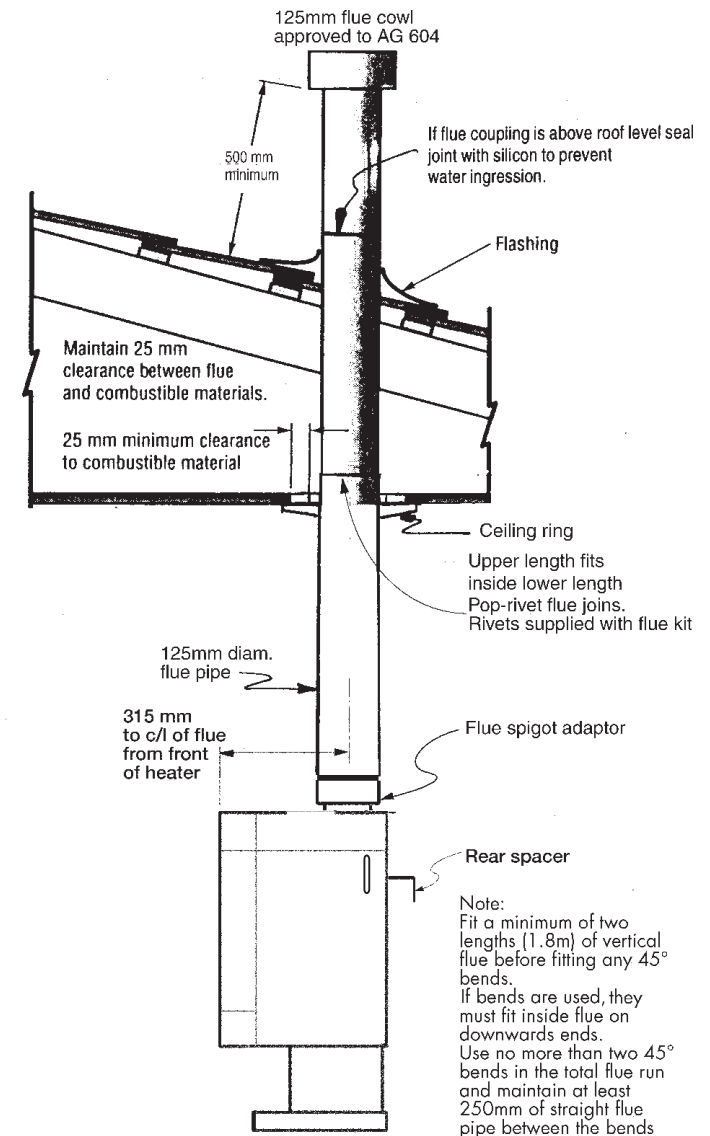
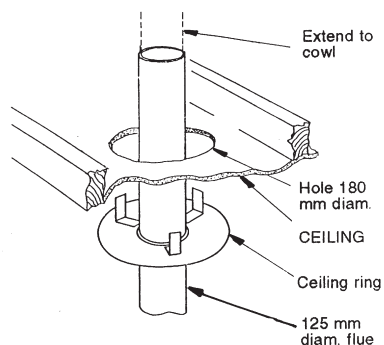

Fig 2.
Fig 1.
6. Fit rear spacers as per figure 2.
3. Carry out installation as per Fig 1 (ceiling plate installation) and Fig 2 (flue installation).